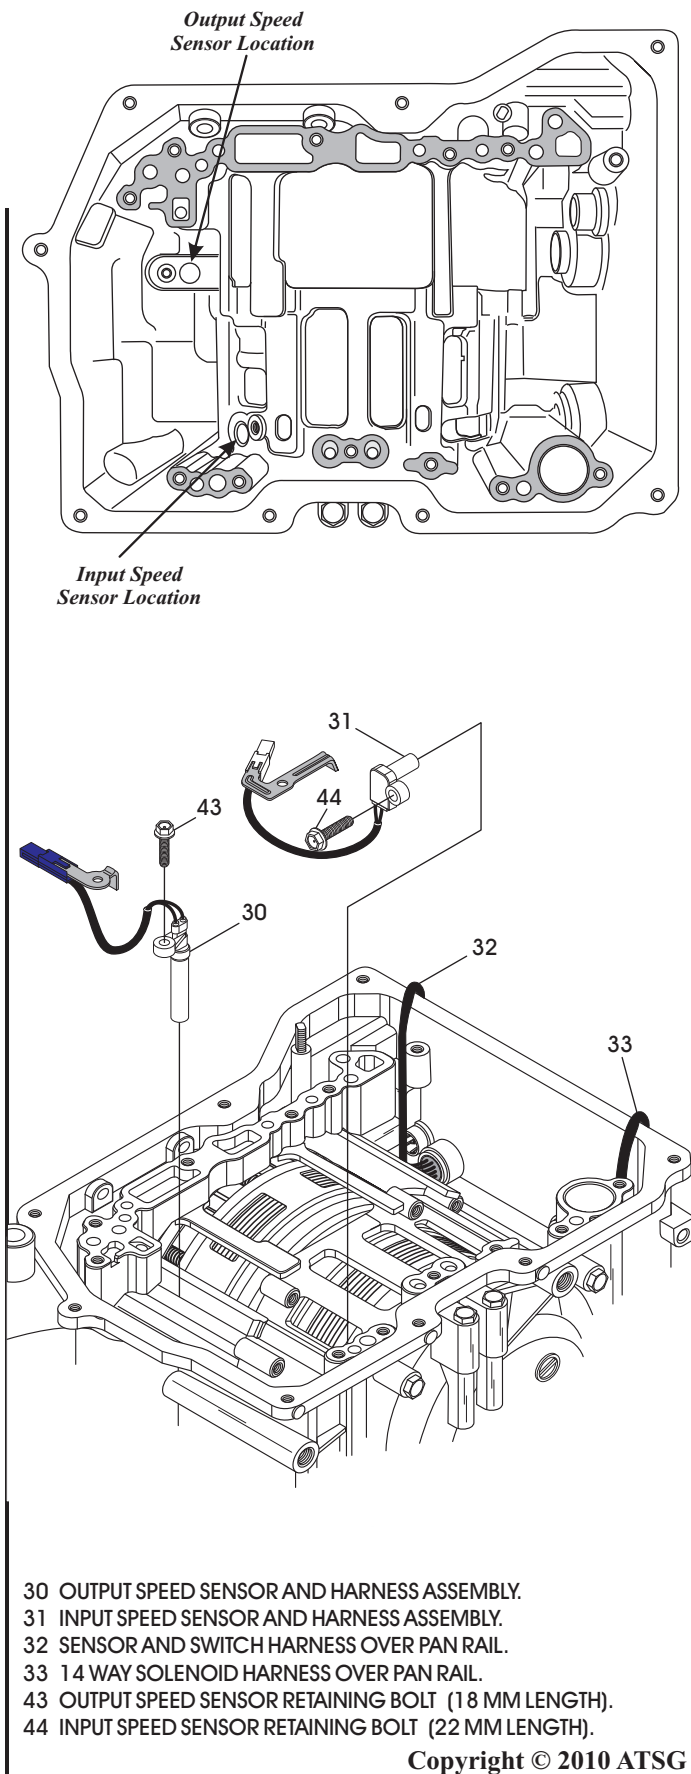

Figure 197
69. Position the case as shown in Figure 197 and lay wiring harness' over pan rail as shown.
70. Install the output speed sensor, as shown in Figure 197, and torque bolt to 7 N·m (62 in.lb.).
71. Install the input speed sensor, as shown in Figure 197, and torque bolt to 10 N·m (88 in.lb.).